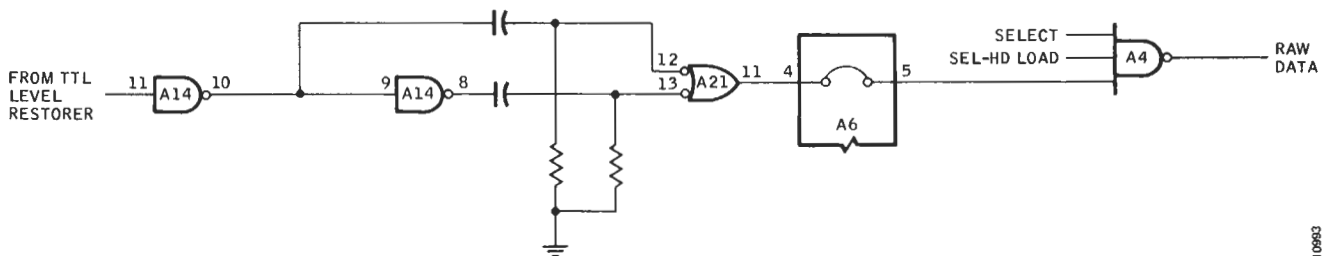
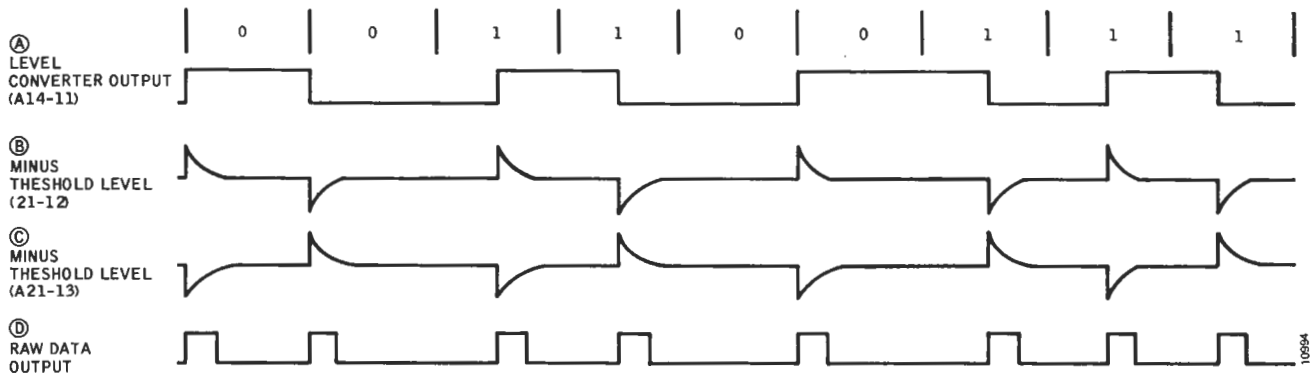

Figure 3-34. Raw Data Output Gating
Figure 3-35. MFM Raw Read Data Waveforms
- **Raw Data Output Gating** — The raw data output gating network (Figure 3-34) consists of two differentiating networks and two inverters. The input data from the logic level restorer (A, Figure 3-35) is applied simultaneously to
both networks; however, the input to one network is the complement of the other. As a result, two identical differentiated waveforms of opposite polarity (B and C, Figure 3-35) are applied to OR gate A21. When either input (pin 12 or pin 13) of A21 goes below 2.2 volts, output pin 11 goes high (D, Figure 3-35). The time constant of the RC network is approximately 2 microseconds; therefore, the threshold level of OR gate A21 is held low for approximately 300 nanoseconds.